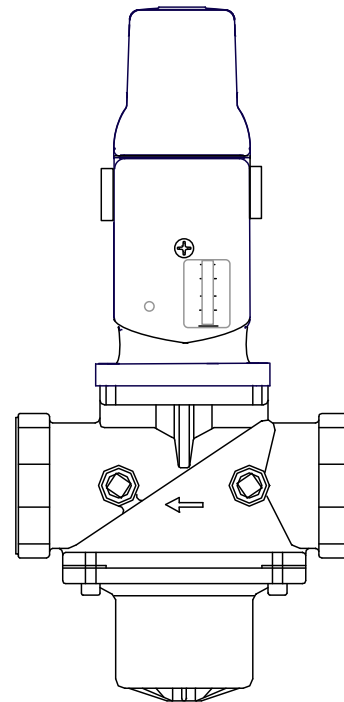

Figure 3-3.
2. The unit checks to ensure that the proof of closure switch in the Safety Shut-Off Valve (SSOV) is closed (Figure 3-3).